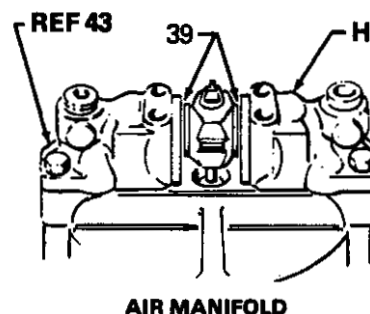

Fig 4-1
To restart a stalled motor, screw the **lift ring (16)** out of the detent housing (36) and use a screwdriver to push the valve housing (29) down. See Figs 4-1.
To locate where air is leaking, shut **off** the air supply and disconnect the hose. Screw the inlet union (49) out of the air manifold (43), remove the shield (35), then screw the union back into the manifold. See the Parts Drawing and Fig 4-1. Connect the air hose and turn the air on, then use the checking methods listed in the **CHECK CHART** to find where air is leaking.